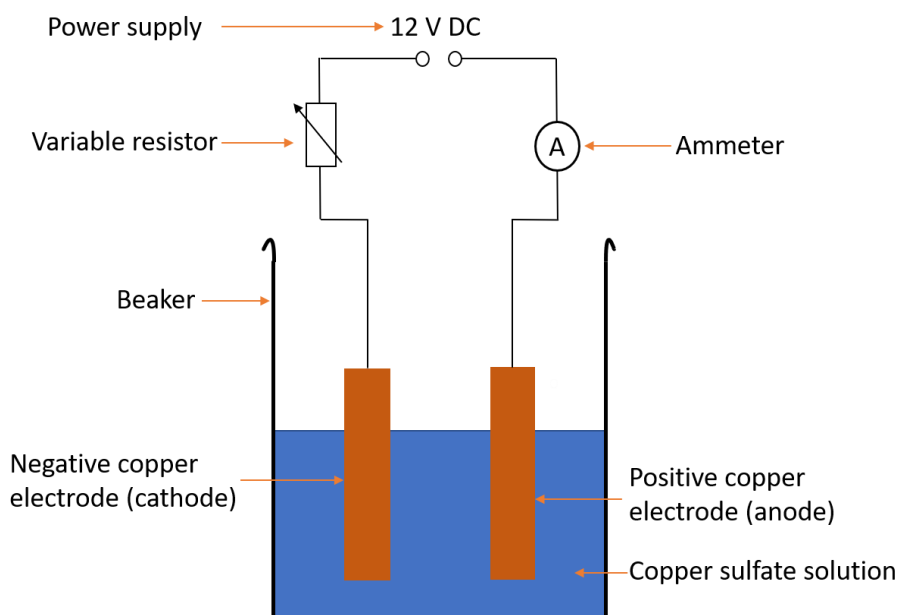

Figure 2: Experiment setup using copper electrodes
2. Pour copper sulfate solution into a beaker. Place the copper electrodes in the beaker (see figure 2).